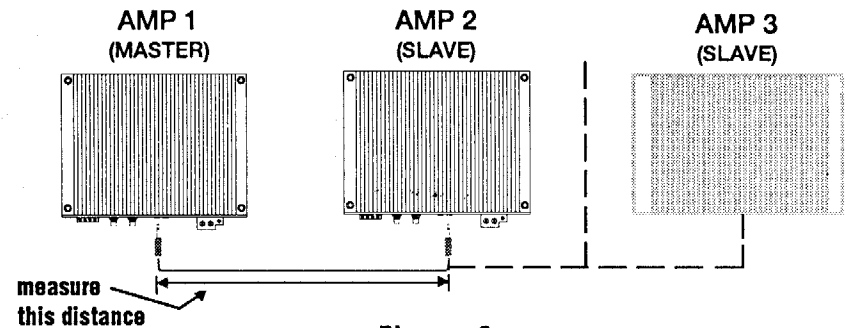

Figure 9
3. Measure the distance from the first amplifier's "master" output jack to the next amplifier's "slave" input jack (see figure 9). A "Y" connector must be used when three amplifiers are used.